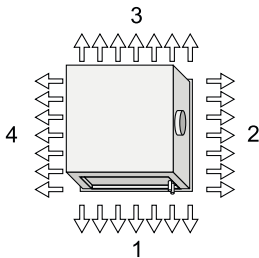
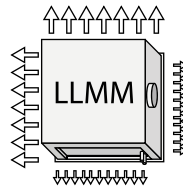

Figure 1. Top view, nozzle setting, single-module unit, PARASOL, sides 1-4.
Figure 2. Nozzle setting example PARASOL single-module unit - LLMM.
*) All four sides on the unit can be set individually. The designation of the nozzle setting follows the order according to Figure 1. See Figure 2 for example.